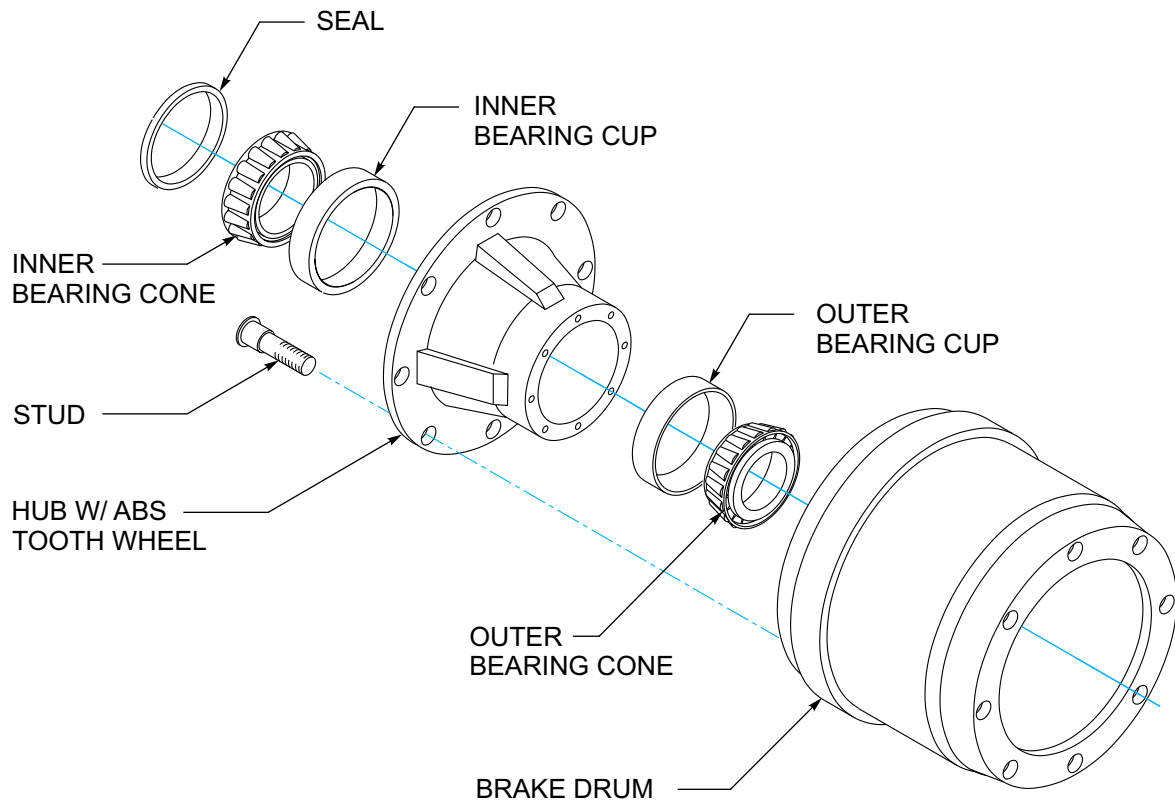

Figure 4-14: Outboard Mount Hub and Drum
(See Figure 4-14)
- i. Place the drum over the hub and brake shoes being careful not to damage the threads on the studs (See Figure 4-14.) Make sure the drum seats flat against the hub flange and mates properly with the hub pilot. There should be no interference between the brake drum pilot chamfer and the corner radius on the hub. If interference exists, the hub will not be able to function properly.
- k. If studs are marked "R" or "L", right hand (R) hubs should be installed on the curbside of the vehicle, left hand (L) hubs should be installed on the driver side.